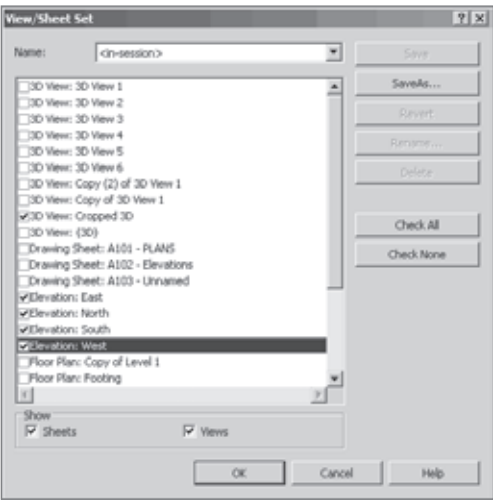

Figure 12.7
**Selected Views/Sheets** This option allows you to define a reusable list of views, sheets, or any combinations of views and sheets. This way, you can essentially batch-print a job by sending large quantities of sheets to the printer in one shot. You can also save these selections for later print jobs. Figure 12.7 shows the View/Sheet Set dialog box.